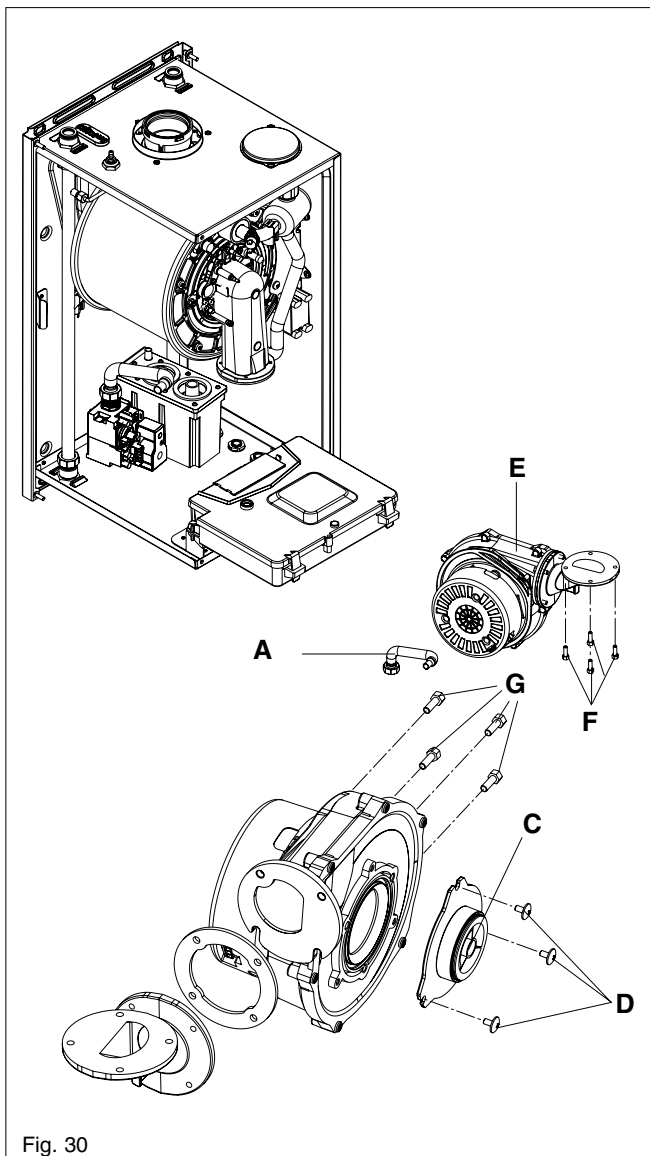

Fig. 30
Step 6 (fig. 30)
- Using a suitable screwdriver, very slowly turn the maximum adjustment screw (see fig. 30) – clockwise to decrease, counter clockwise to increase – until the correct value is displayed on the CO₂ analyser (allow time for the analyser to stabilise).